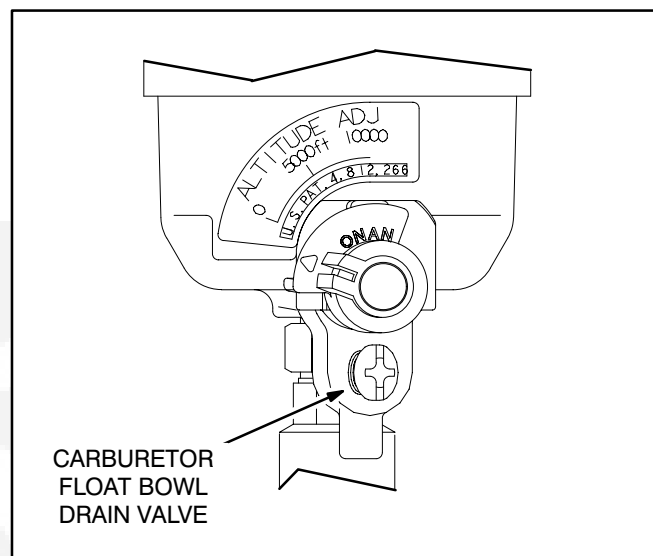

FIGURE 9. DRAINING CARBURETOR FLOAT BOWL
4. **Gasoline Models with Carburetor** – Drain the carburetor float bowl (Figure 9) into a container and dispose of the fuel in accordance with local environmental regulations. Draining the float bowl prevents deposits of gum from clogging the tiny passages in the carburetor as the gasoline in the bowl evaporates during storage.